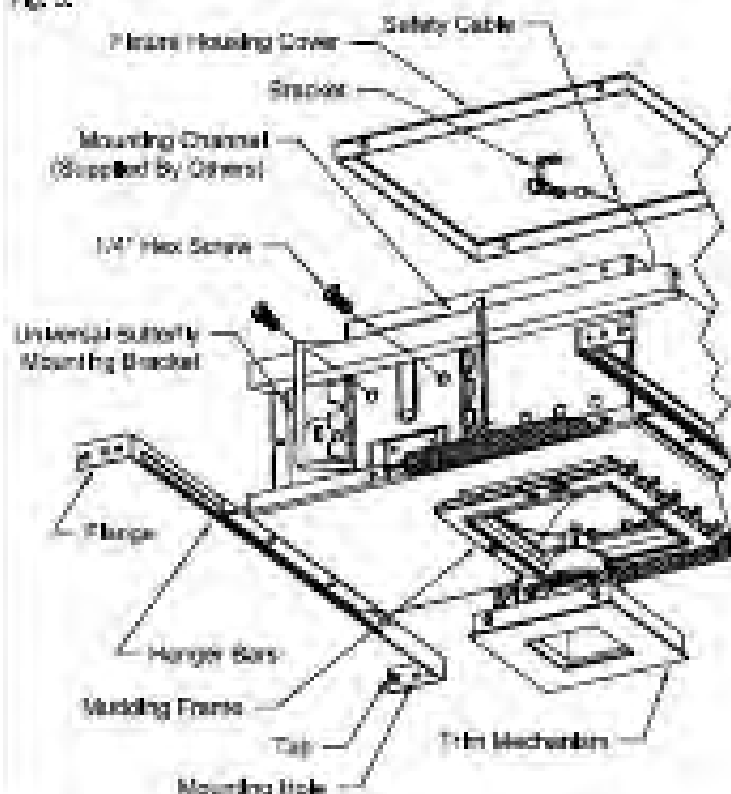
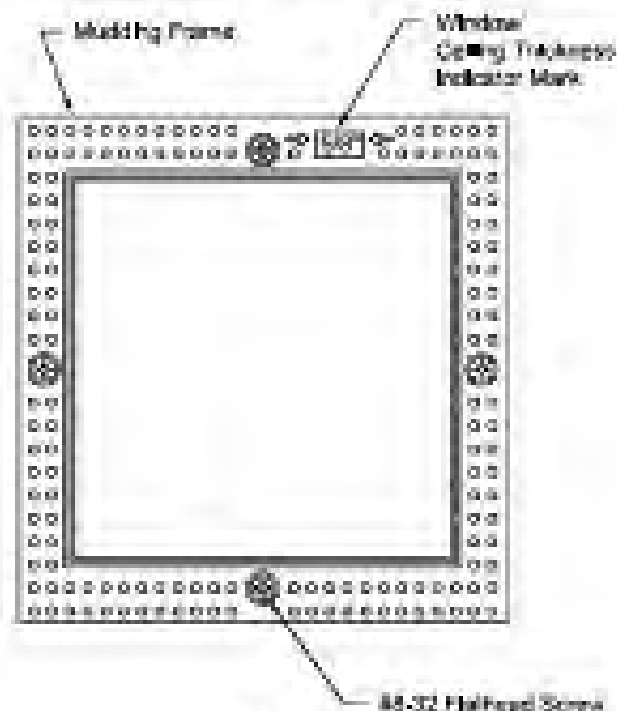

Figure 1
Figure 2
1. Fixture comes equipped with Universal Butterfly Mounting Brackets and can take common 1/2 inch or 1 1/2 inch Black Iron or Galvanized Mounting Channels (Supplied By Others). See Fig. 1.
3. Hammer Flanges to seat Hanger Bar Tabs in ceiling. See Fig. 1.
4. Secure Hanger Bars using one (1) nail in Mounting Hole in each Flange.
5. Mudding Frame is sent unmounted from factory. Adjust Mudding Frame to applicable Ceiling Thickness (1/2", 5/8", 3/4", 1") by sliding in 5/8" increments until desired Ceiling Thickness Indicator Mark shows through Window in Mudding Frame. See Fig. 2.
6. Secure Mudding Frame using four (4) #8-32x1 1/2 inch Flathead Screws (for 1/2 inch, 5/8 inch and 3/4 inch Ceiling Thickness) or four (4) #8-32x2 inch Flathead Screws (for 1 inch Ceiling thickness).
7. Adjust elevation of Fixture so Mudding Frame Edge will be flush with surface of finished Ceiling by loosening two (2) 1/4 inch Hex Screws on both Universal Mounting Brackets. See Fig. 1.
8. Tighten two (2) 1/4 inch Hex Screws on both Universal Butterfly Mounting Brackets to secure Fixture. See Fig. 1.
1. Connect Safety Cable attached to Banana Bracket or Trim Mechanism (See Fig. 1) to Fixture by inserting Safety Cable through opening in Fixture and inserting Snap Hook on end of Safety Cable into hole in Bracket attached to inside of Fixture Housing Cover (See Fig. 1).